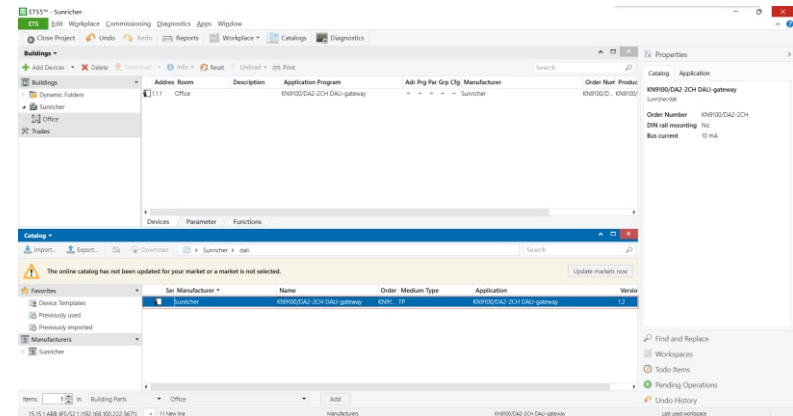

Figure 23
2.9. Previously imported gateway database will be shown, double click on the imported gateway to add it to the created room as shown in Figure 23. Once it is added to the room, click on the drop down button of the room on the left, you can see the added device, click on it, the device **“Group Objects”**, **“Channels”**, **“Parameter”** will be shown on the right side of the window.